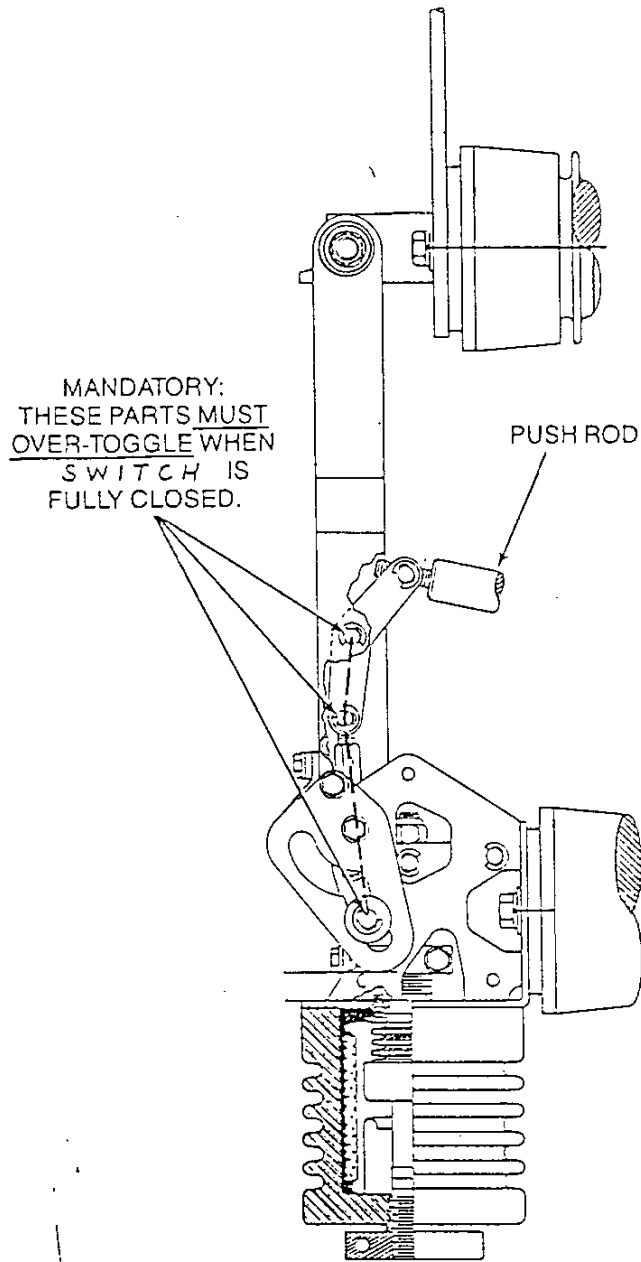

FIGURE 17
1. Using manual charging handle, operate mechanism until interrupter just closes and "over toggles". Figure 17.
NOTE: If poles have not "toggled", reference Figure 17, "toggle" by hand by pulling on pole pullrods.